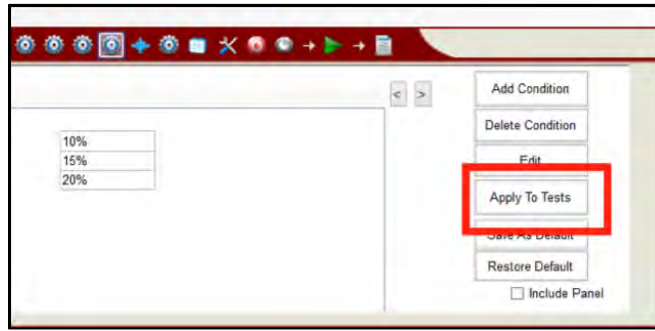
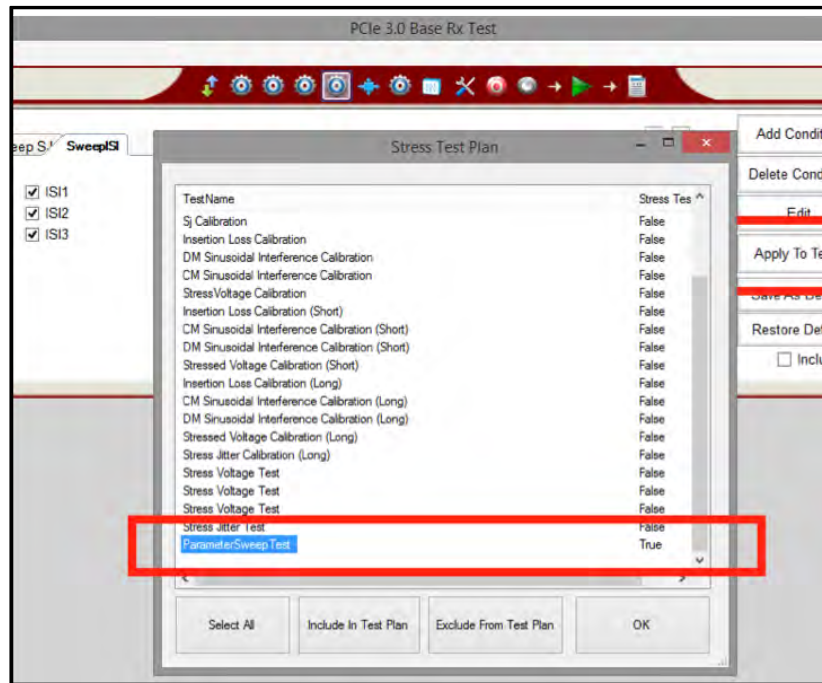

FIGURE 111 APPLY TO TESTS
FIGURE 112 SELECT APPLICABLE TESTS
- From the menu, apply the sequences of parameters to the selected tests (see Figure 111 and Figure 112), which builds a “Stress Test Plan”.